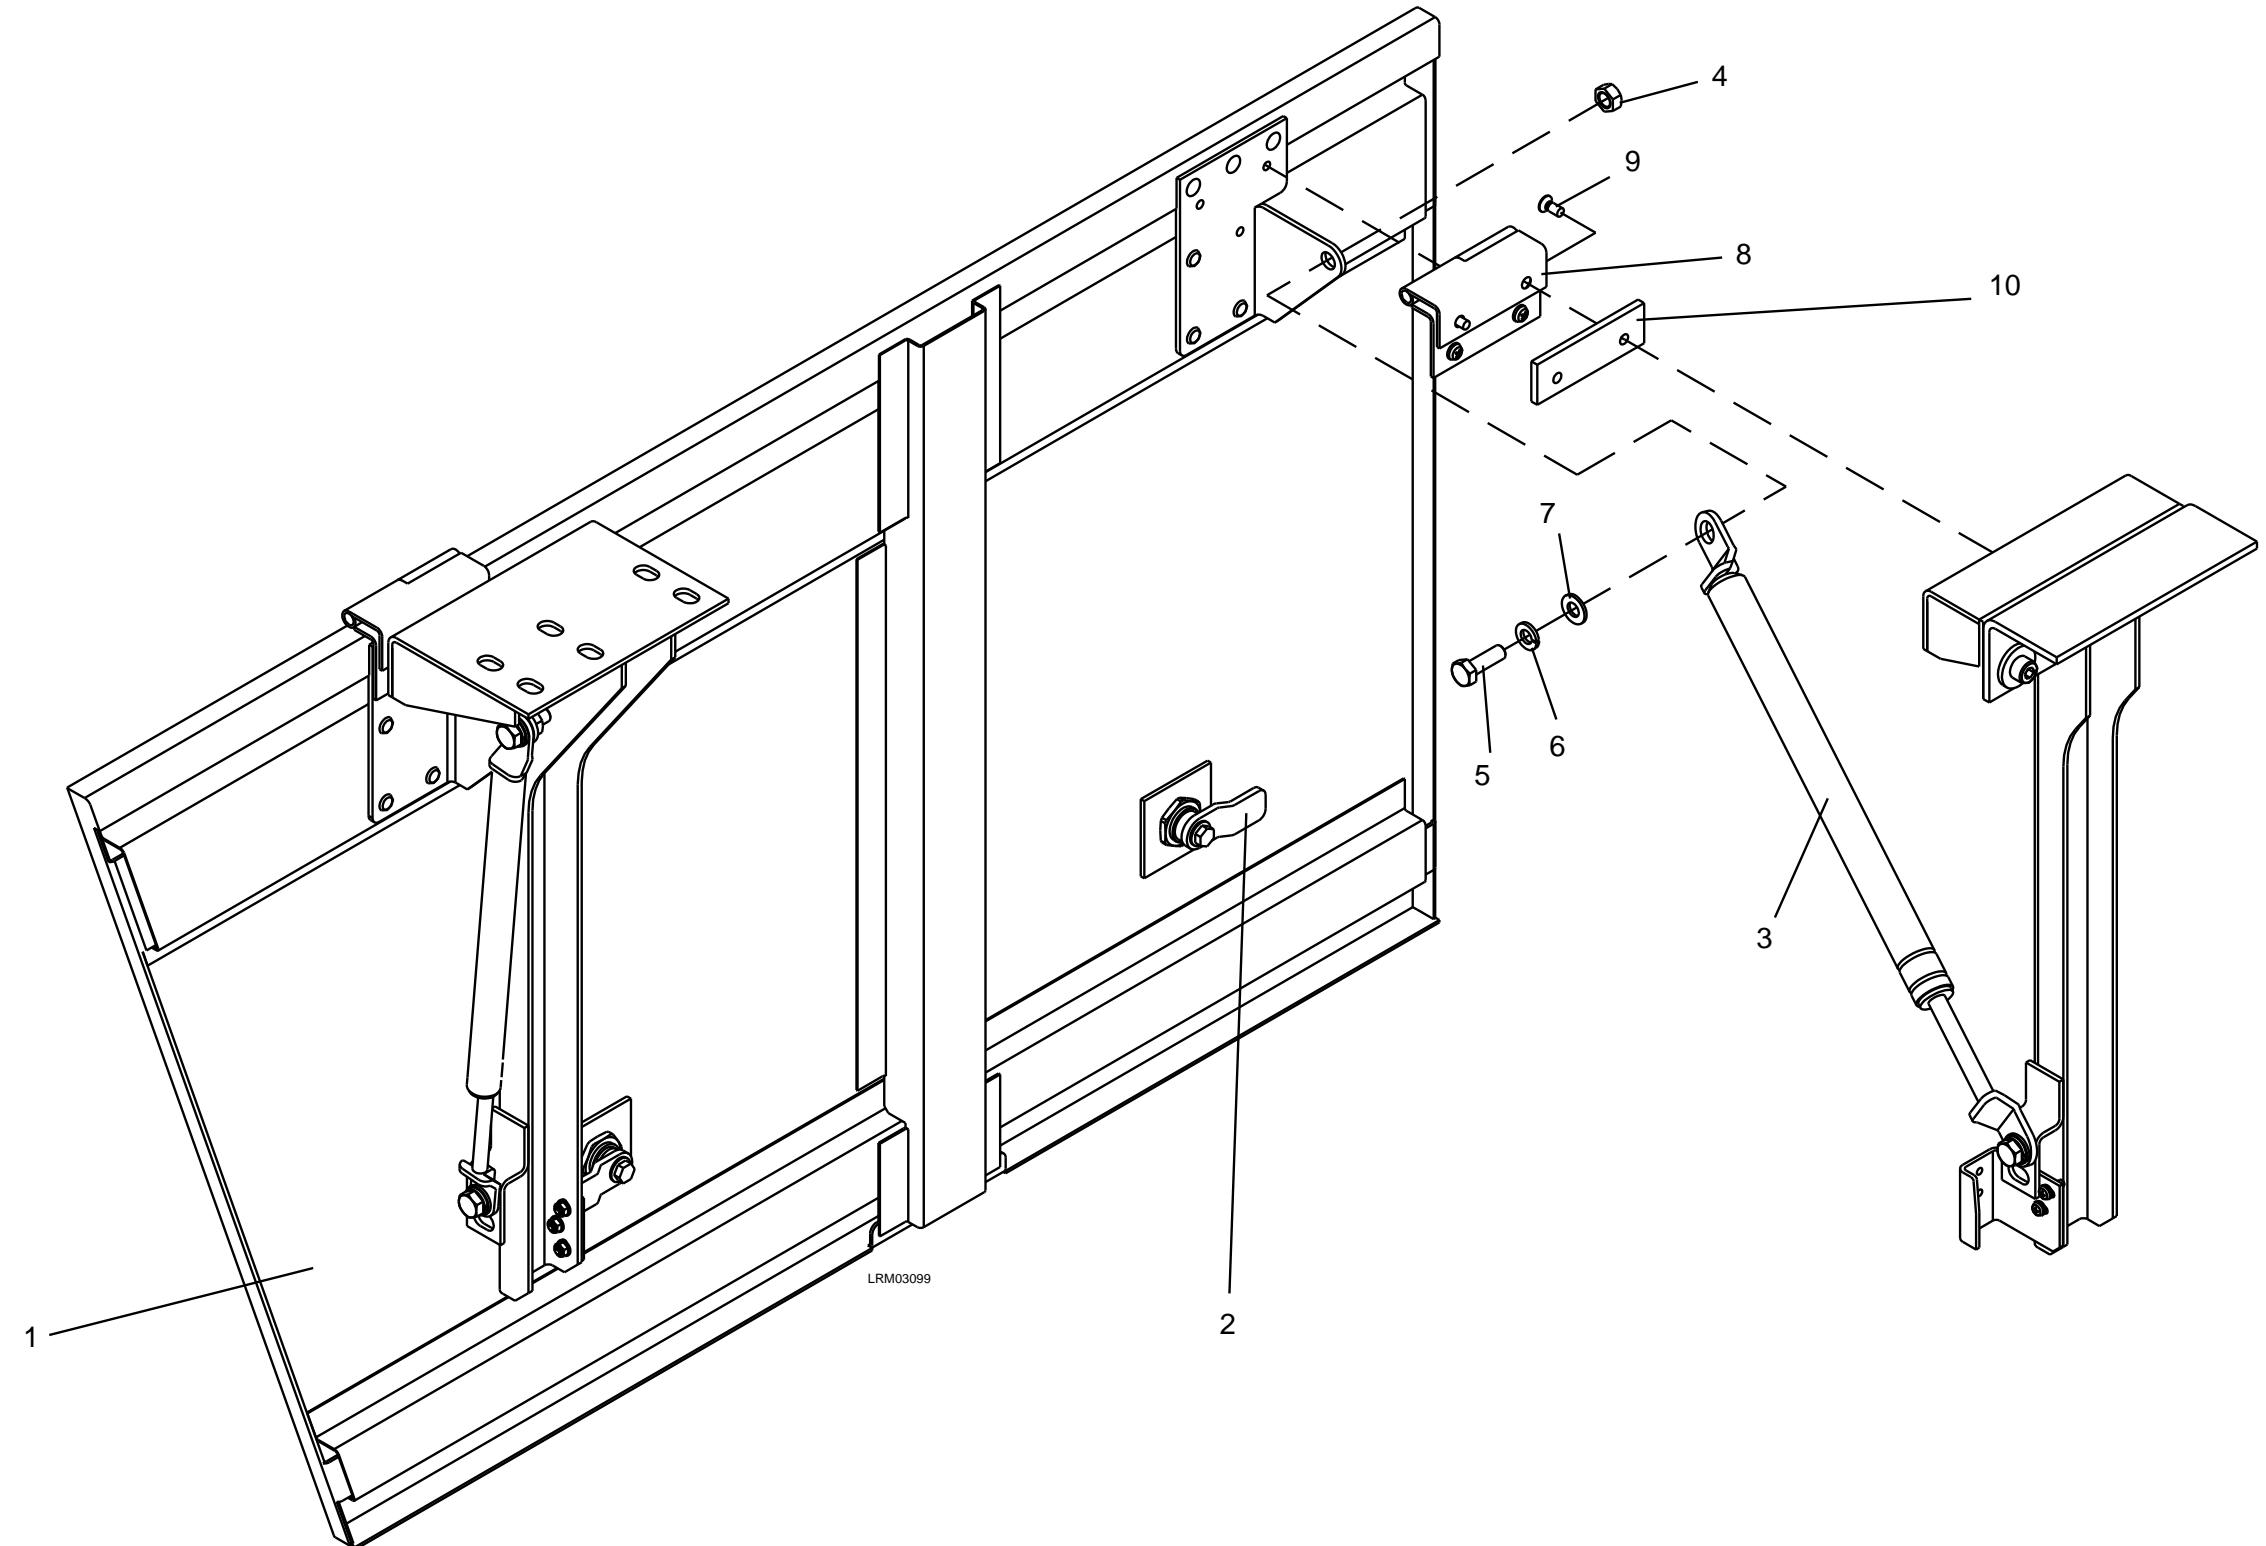

Figure 7-72: Hinged Skirt
See Figures 7-72 and 7-73.
1. Unlock the latches (2) and open the Hinged Skirt (1). See Figure 7-72.
2. Remove the M8 nut (4), M8 x 25 bolt (5), M8 plain washer (7), and M8 lock washer (6) from the damper (3).
3. Remove the M5 screws (9) from the hinge (8).
4. Carefully remove the Hinged Skirt (1) and liner (10).